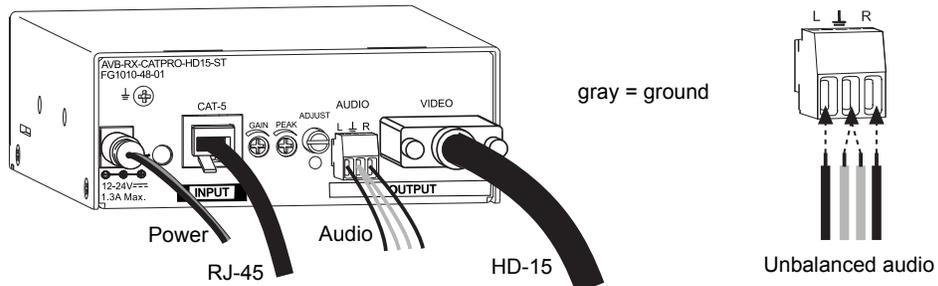

FIG. 61 CatPro RX Module connectors and audio wiring
1. Fasten the HD-15 cable (FIG. 61) onto the Video Output connector.